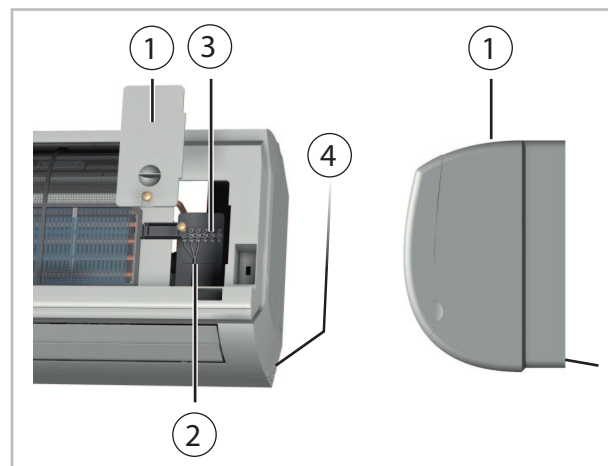

Fig. 28: Connecting the indoor unit
2. ➤ Remove the covers on the right-hand side (Fig. 28).
4. ➤ Connect the control line to the terminals (Fig. 28).